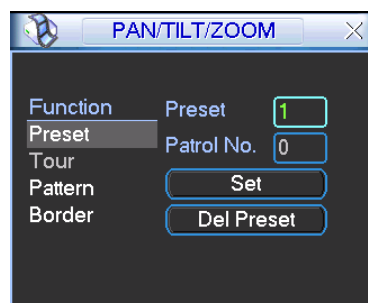
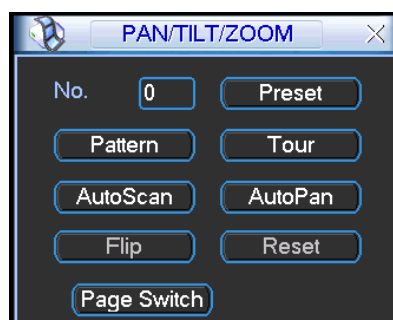

Figure 4-45
Figure 4-46
In Figure 4-42, please click the “set” button. The interface is shown as below. See Figure 4-45. Here you can set the following items:
In Figure 4-42, click page switch button, the interface is shown as in Figure 4-46.
- The following setups are usually operated in the Figure 4-42, Figure 4-45 and Figure 4-46.
In Figure 4-45, click preset button and input preset number. The interface is shown as in Figure 4-47.
In Figure 4-46, please input preset number in the No. blank, and click preset button.
In Figure 4-45, input patrol (tour) number in the No. blank and click patrol button
In Figure 4-45, click pattern button and then click “begin” button. The interface is shown as in Figure 4-49. Then you can go to Figure 4-42 X to modify zoom, focus, and iris.
In Figure 4-46, click “Auto Scan” button, the system begins auto scan. Correspondingly, the auto scan button becomes Stop button. Click stop button to terminate scan operation.
In Figure 4-46, click page switch button, you can see an interface is shown as below. See Figure 4-51. Here you can set auxiliary function. The aux value has relation ship with the Aux button of the decoder.